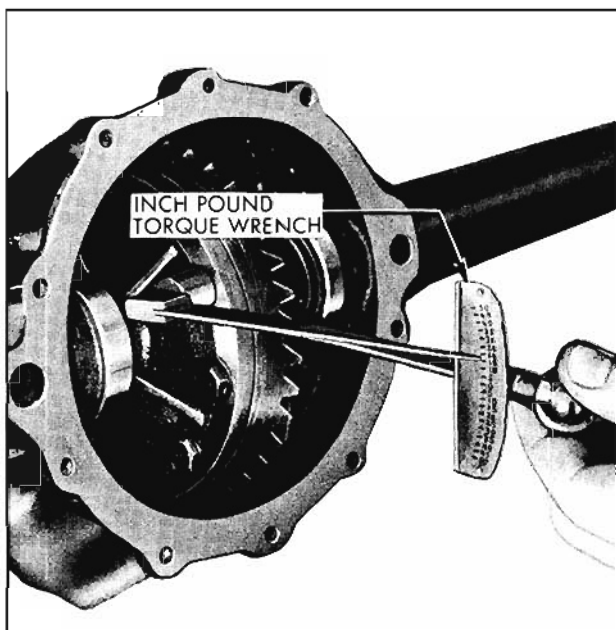

Fig. 10-126 Checking Side Bearing Pre-load
4. Rotate differential case several complete turns to seat bearings. Check bearing pre-load using an inch pound torque wrench connected at ring gear attaching bolt. With wrench projecting approximately straight out, bearing pre-load should read 30 to 40 in. lbs. with new bearings, or 20 to 30 in. lbs. with reused bearings. (Fig. 10-126) If pre-load is not according to these specifications, increase shim thickness on each side .002" for each additional 10 in. lbs. pre-load desired, or decrease shim thickness .002" on each side for each 10 in. lbs. pre-load to be subtracted.